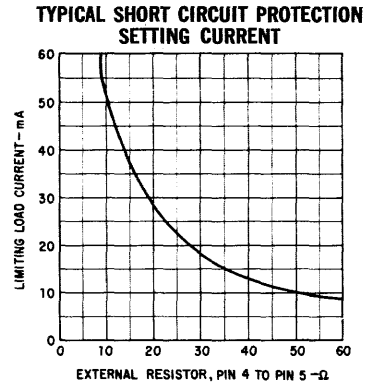

FIGURE 3
- (3) Selection of Short Circuit Current: The maximum limit on the internal short circuit protection at any current from 1 to 50 mA can be set by externally connecting a preselected resistor (see figure 3) between pin 4 and pin 5.
- (4) This pin is made available for connections to compensating networks which can be used to alter the dynamic response of the regulator to meet unusual load requirements. No connection is necessary for normal operation.